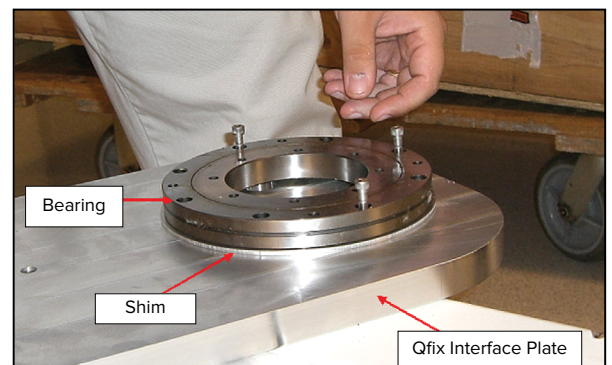

Fig. 12
8. Next, using the (8) ¼-20 x 1.5" SHCS and a ⅜" Allen wrench, attach the bearing to the Interface Plate (Fig. 12).